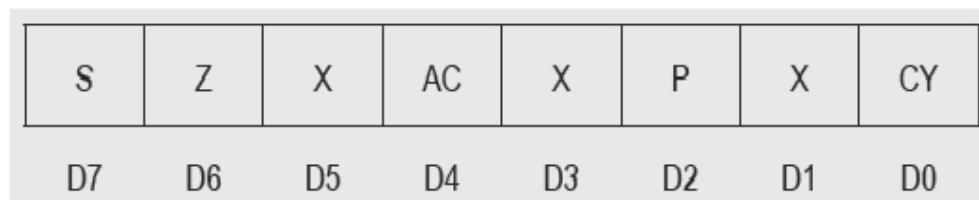

Figure1.4: Flag Register Format of 8085
Flags: The ALU includes five flip-flops, which are set or reset after an operation according to data conditions of result in the accumulator. They are called as Zero (Z), Carry (CY), Sign (S), Parity (P), and Auxiliary Carry (AC) flags .The flag register format of 8085 is shown in figure 1.4.